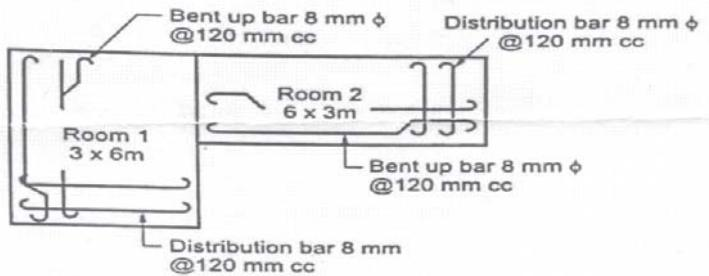

Fig no 2
- b) Determine quantity to steel reinforcement in slab for both room from fig no 2 in 8 mm Ø bar provided @ 120mm c/c along short and long span with alternate bar bent up at support. Determine the quantity of reinforcement. [9]